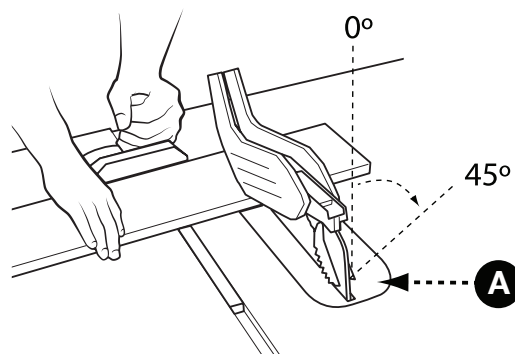

FIGURE 39
Bevel crosscutting is the same as crosscutting except the bevel angle (A) is set to an angle other than 0°. When making a bevel crosscut, place the miter gauge in the right miter slot so that the blade is tilted away from the gauge and hands. See Figure 39.